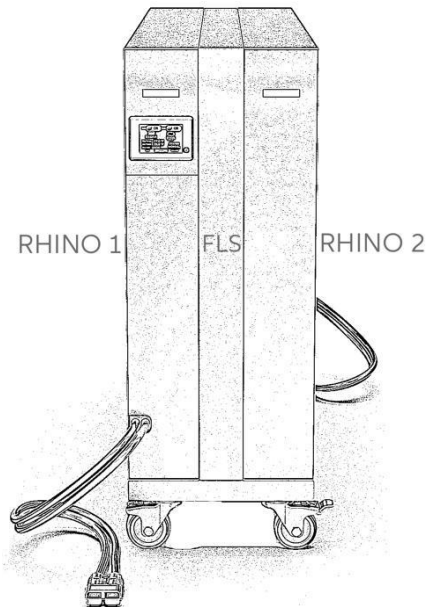

Fig. 8
1. Repeat Steps 1 – 3 with your second RHINO. When finished, your RHINOs and floor stand should resemble Figure 8.